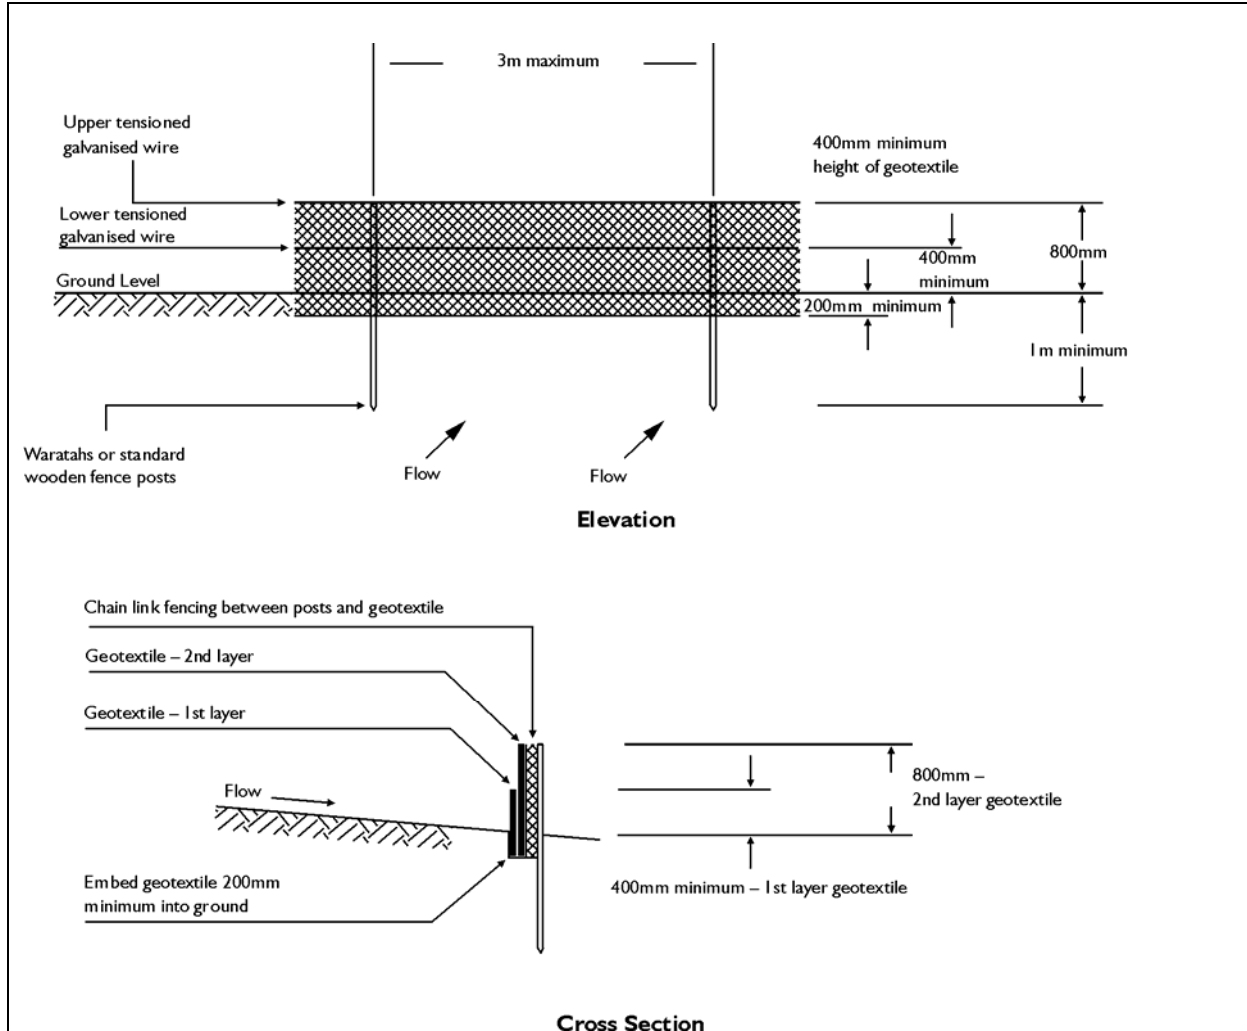

Figure 7.3 Super Silt Fence
- e) In the case of a fabric dam (refer Figure 7.3), the geotextile needs to be strengthened with chain mesh or boundary fence netting.